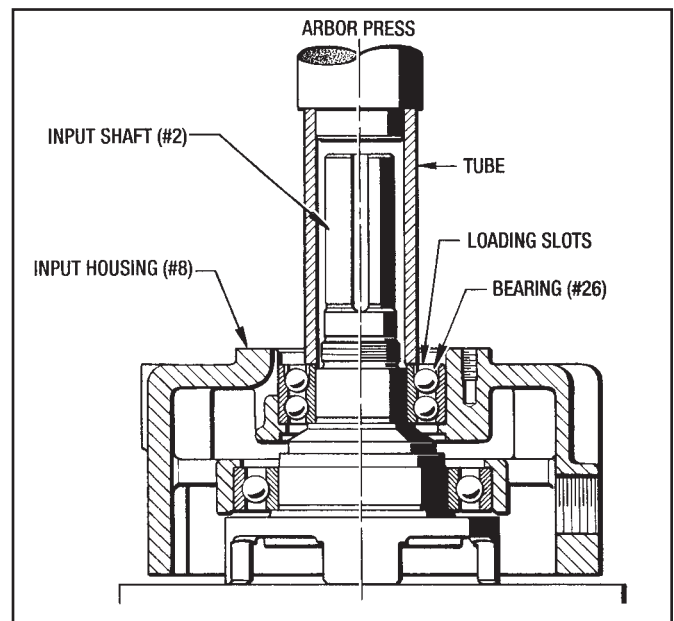

Figure 9.5 - Pressing Bearing (#26) into Input housing
3. Set the Input Housing Subassembly into an Arbor Press as shown in *Figure 9.5*. Using an appropriate size tube, press on the inner race of Bearing (#26) until it bottoms out. **(Do not press on the bearing cage of the outer race)**